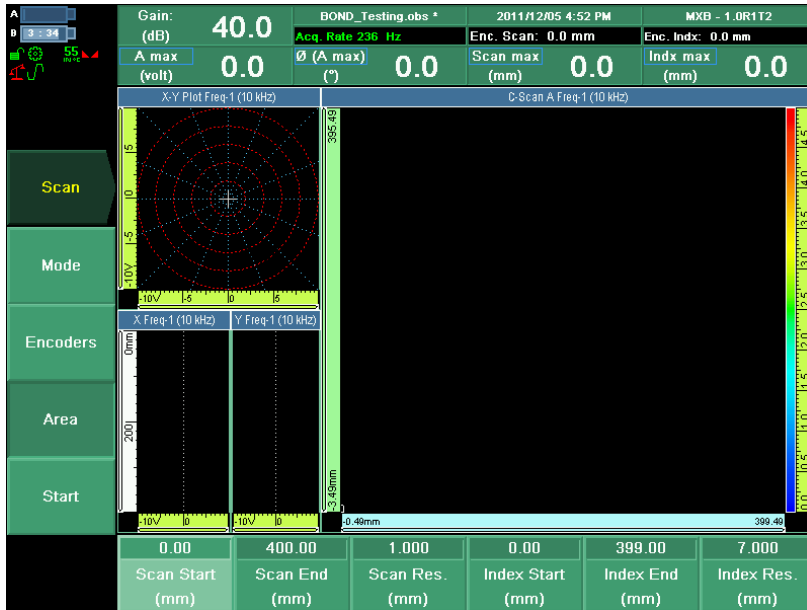

Figure A-5 The Area submenu
1. Select **Scan > Area** (see Figure A-5 on page 58).